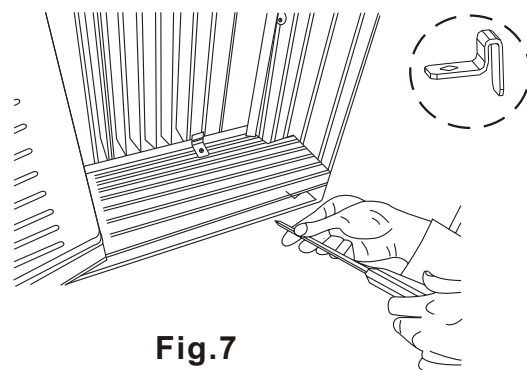

Fig.7
- A. Place the frame lock between the frame extensions and the window sill as shown in Fig 7. Drive 3/4" (19mm) or 1/2" (12.7mm) locking screws through the frame lock and into the sill.